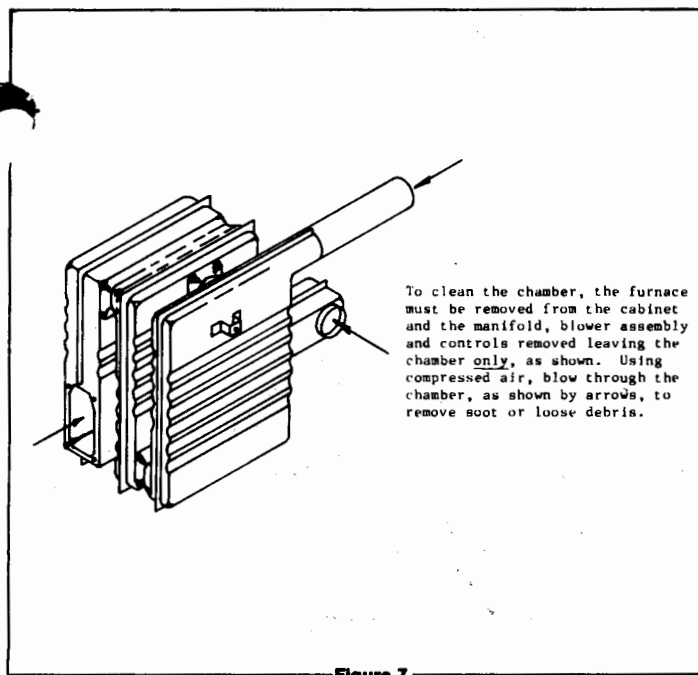

Figure 7
4-Inspect main burner by removing the four (4) screws (A, B, C and D) securing the burner access door to the combustion chamber (see Figure 7). If excessive rust and corrosion are present on burner surface, the burner must be thoroughly cleaned or replaced. The burner may be cleaned using a steel wire brush and blown clean using compressed air.